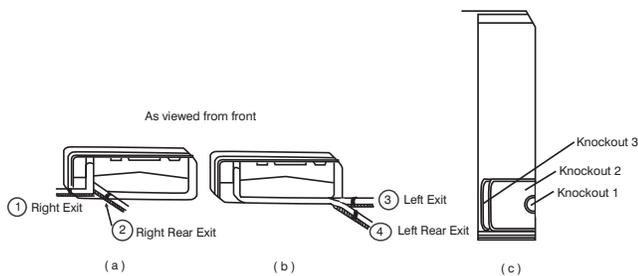

Fig. 28 – Refrigerant Line Routing
The refrigerant lines may be routed in any of the four directions shown in Fig. 28 (a) and (b).
- 1 Use a small saw blade to carefully remove the corresponding plastic covering on the side panel and drill the appropriate size hole where the pipe is going through the wall (see Fig. 28 (c)).